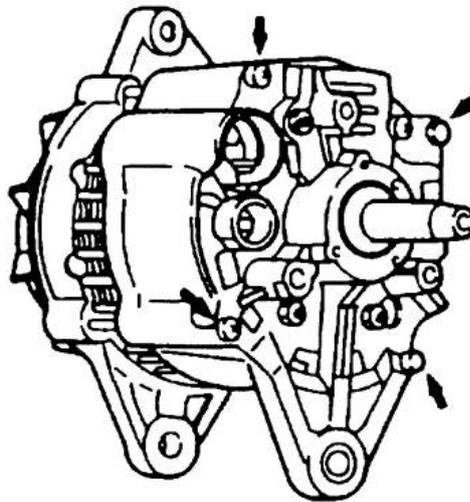

Figure 328 Installation of the Rear Cover Through Bolts
- f. Insert a suitable bar or rod through the front and rear pivot holes and install the four through bolts (Figure 328). Tighten the bolts securely.